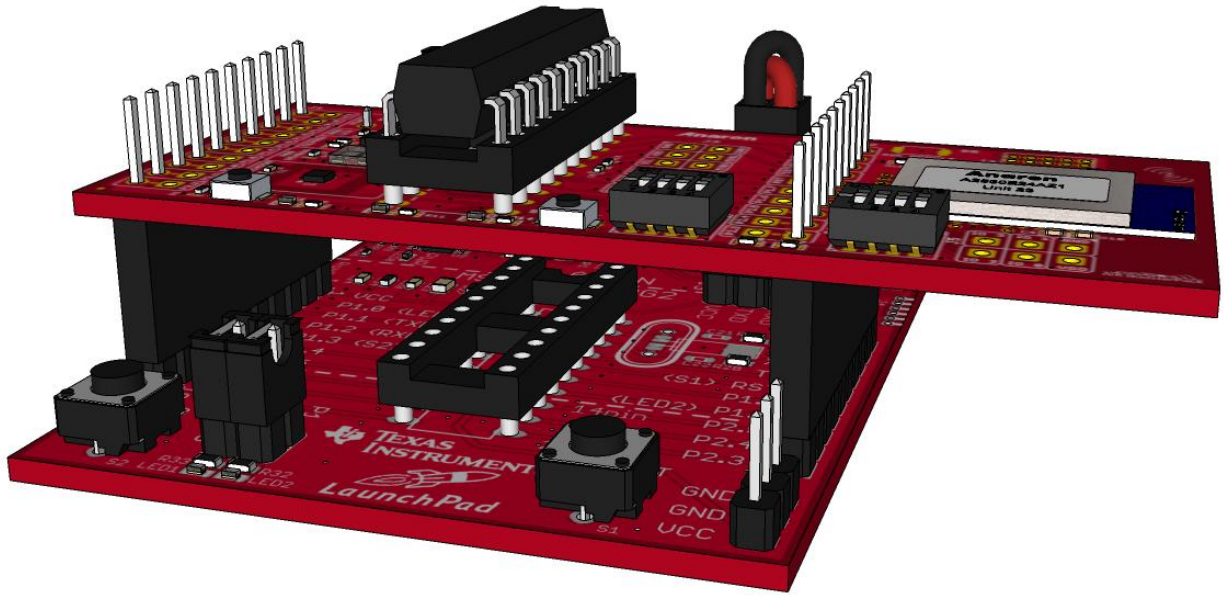
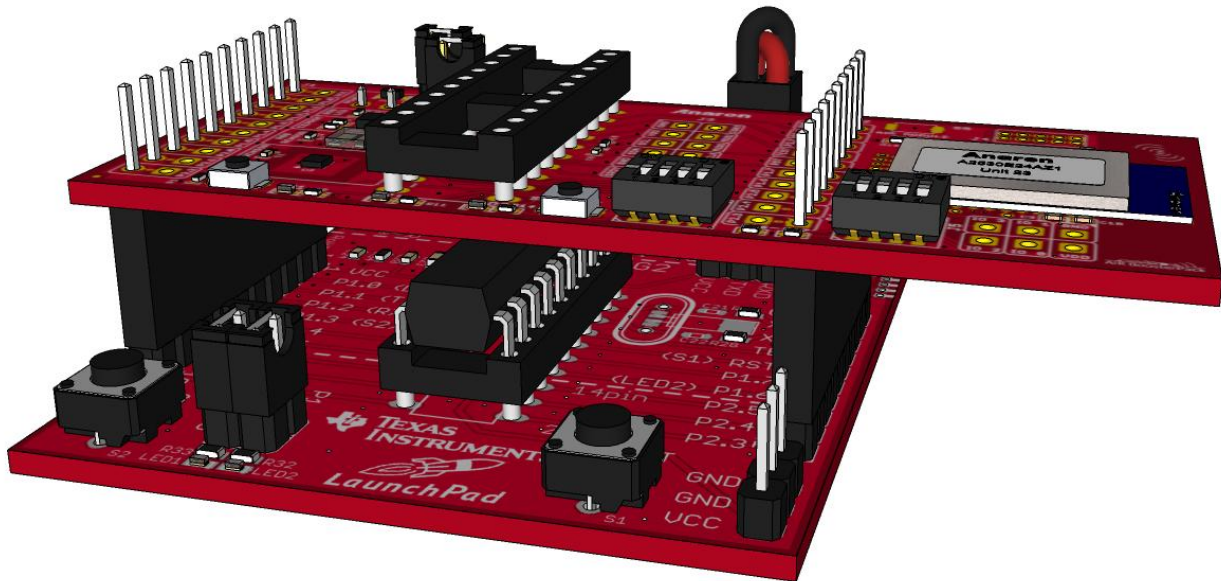

Figure 4 - Standard Installation (MSP430 on BoosterPack)
Figure 5 - Alternate Installation (MSP430 on LaunchPad)
- 4) Remove the existing MSP430 device on the LaunchPad as the BoosterPack comes with a microcontroller already installed. Alternatively, the provided microcontroller may be installed in the LaunchPad’s socket. In either case, only one device should be installed at any given time. See Figure 4 and Figure 5 which show the two options for MSP430 location.